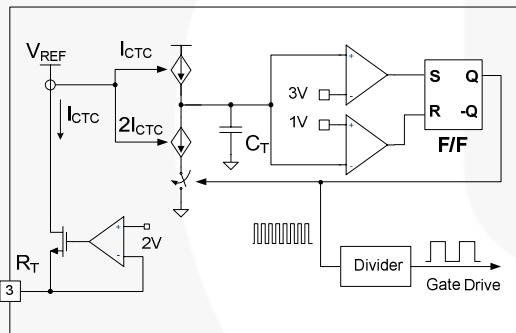

Figure 16. Current-Controlled Oscillator
**2. Internal Oscillator:** FSFR-XS series employs a current-controlled oscillator, as shown in Figure 16. Internally, the voltage of  $R_T$  pin is regulated at 2V and the charging / discharging current for the oscillator capacitor,  $C_T$ , is obtained by copying the current flowing out of the  $R_T$  pin ( $I_{CTC}$ ) using a current mirror. Therefore, the switching frequency increases as  $I_{CTC}$  increases.